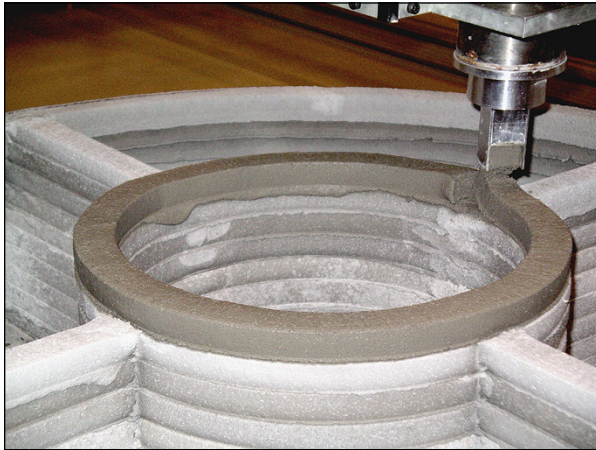

FIGURE 8-9:
- » 3D printers capable of fabricating living areas for explorers by using nothing more than local materials and sunlight for power (see Figure 8-9)